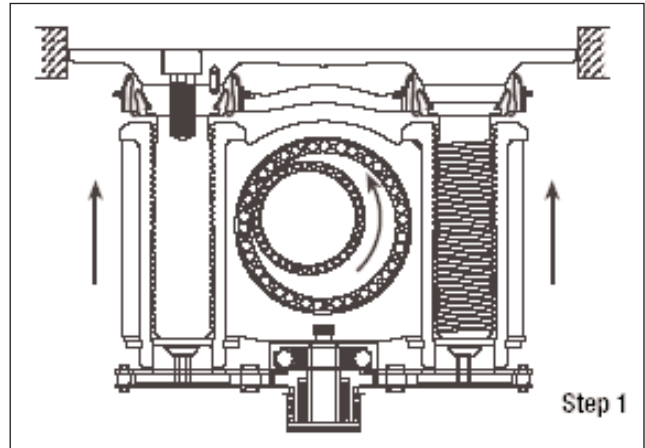

Fig 1.5
- b) Block lifts and begins to move forward, carrying the adjuster sleeves and pistons with it (Fig. 1.5).